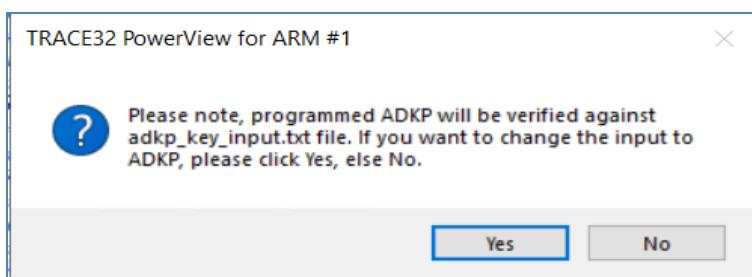

Figure 41. Confirmation from user to confirm ADKP in text file
- If the user wants to update ADKP, select Yes from Figure 41, text file opens, and user can edit it. If user wants to proceed then select No from the Figure 41.